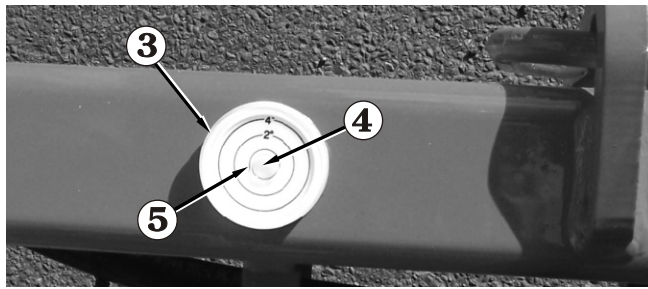

Figure 8.22
3. Visually check the bubble level ③ to determine which stabilisers must be further extended to level the platform (see Figure 8.22).
4. Lower the appropriate stabilisers just enough to center the bubble ④ (see Figure 8.22). When the **Lift Indicator Light** ⑥ (see Figure 8.23) comes on, the platform can be safely raised.